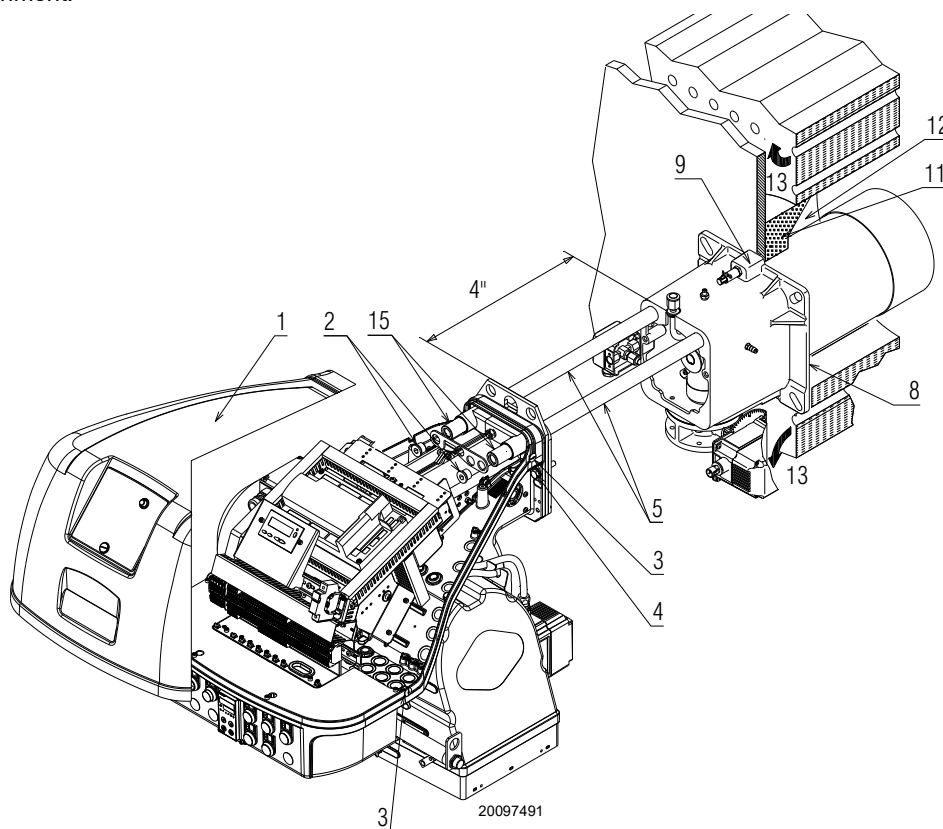

Fig. 11
- For boilers with front flue passes 13)(Fig. 11) or flame inversion chambers, a protection in refractory material 11) must be inserted between the boiler refractory 12) and the blast tube 10). This protection must not compromise the extraction of the blast tube.
- Secure the burner to the boiler, fixing the flange 9)(Fig. 11) to the boiler plate and interposing the insulating gasket 8).
- loosen the 4 screws 3)(Fig. 11, page 16) and remove the cover 1);